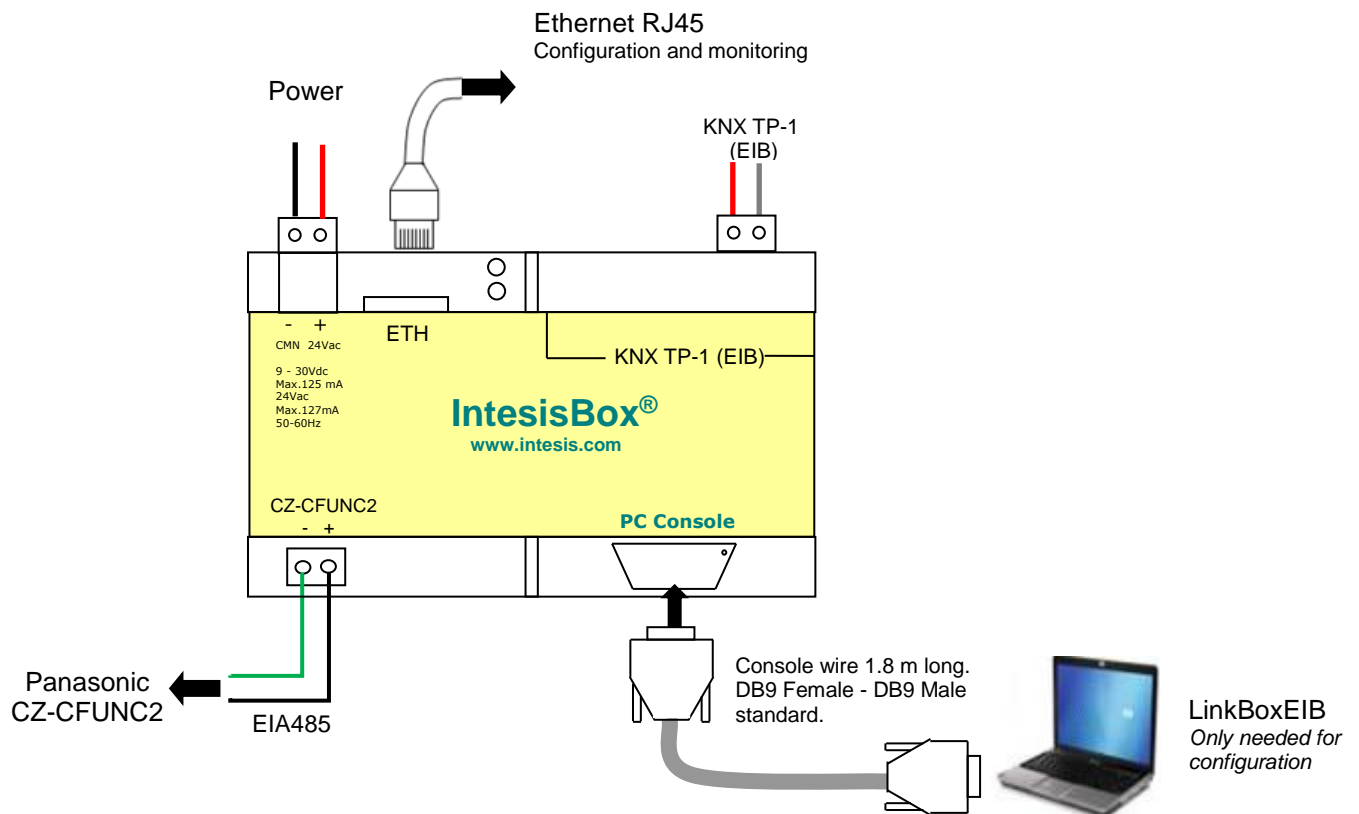

Figure 3.1 Integration of Panasonic AC into KNX TP-1 (EIB) system
- Ethernet: Using the ETH port (**Figure 3.1**) of IntesisBox®. How to check connectivity is explained in section 6.3.
- Serial cable: Connect the IntesisBox® device to the PC serial port using the serial cable provided. One end should be connected to the Console EIA232 port of the IntesisBox® device (**Figure 3.1**) and the other end to the PC serial port.
To power up the device, what you need is to plug properly the Power Supply connector to the IntesisBox® device using a proper cable and connecting one end to the power supply connector (see **Figure 3.1**) and the other end to the power line.